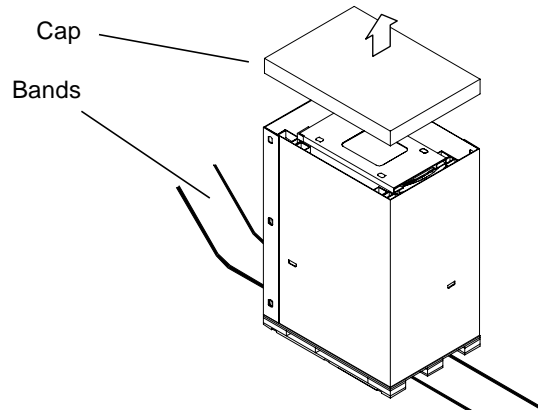

FIGURE 3-1 Unpacking the Sun Fire Cabinet—Step 1
1. Remove the bands and cap from the shipping carton (FIGURE 3-1).